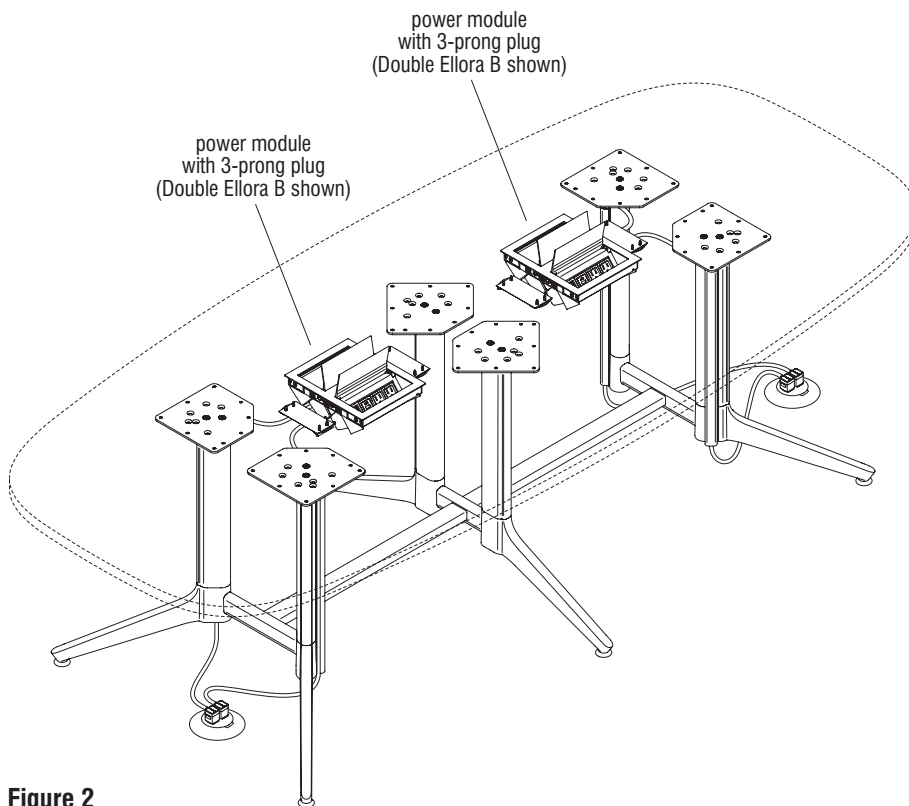

Figure 2
1. With the assistance of a second person if needed, move the table to the final location of use (Figure 2).